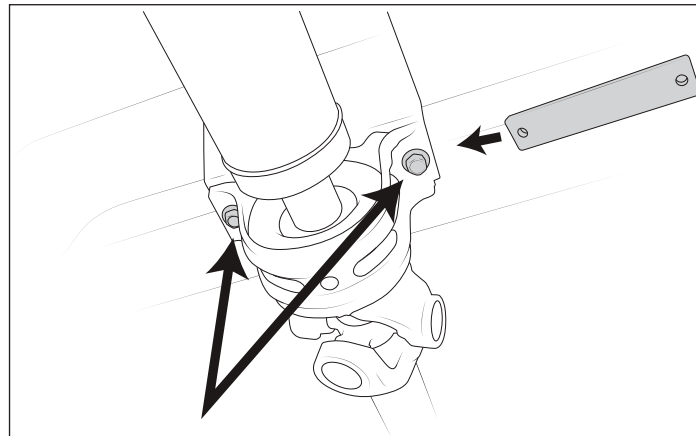

Figure 6
2. Remove the two (2) carrier bearing bolts and discard (fig. 6).